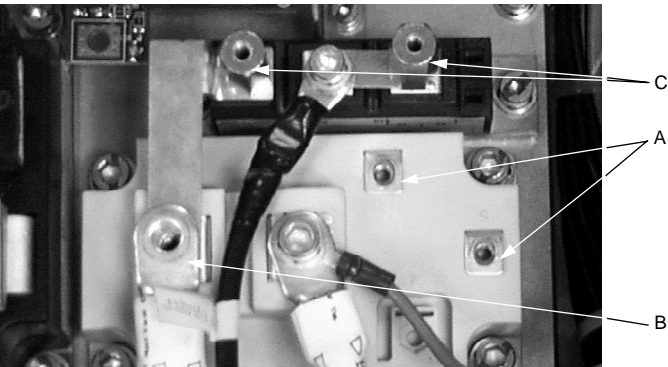

Figure 4.2.19: DB IGBT Module with DB Gate Driver Board Removed
2. Align the mounting holes on the DB gate driver board with the holes on the DB IGBT module (**A** in Figure 4.2.19 on page 4.2.38).
4. At the DB IGBT module Q7-C terminal (**B** in Figure 4.2.19), install and tighten the hex screw with the Q7-C power, control, and jumper cables landed underneath. Using a torque wrench and hex key socket, tighten the screw to 27 lb-in (3 N•m).
6. Using a torque wrench and a metric drive socket, ensure the standoffs (**C** in Figure 4.2.19) on the DB diode block are tightened to 18 lb-in (2 N•m).